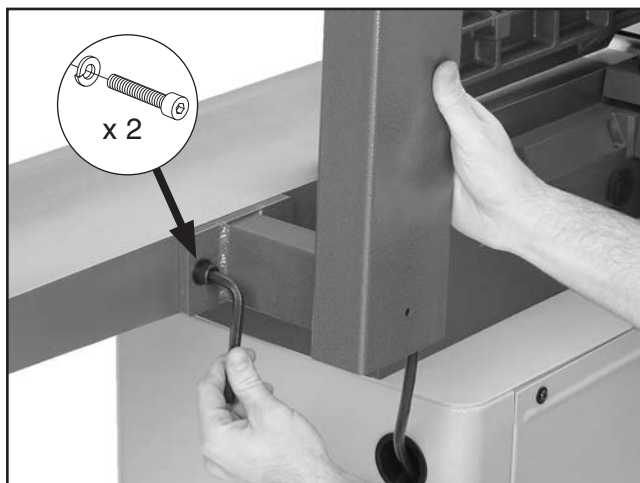

Figure 14. Installing control panel pedestal.
18. Attach control panel pedestal to back of the infeed table with (2) M10-1.5 x 25 cap screws and (2) 10mm lock washers, as shown in **Figure 14**.